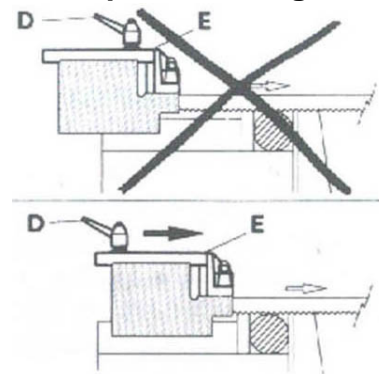

Fig.: 2
Your cutting machine is provided with a sliding guide (E) with built-in protection, which guides the part of the blade necessary to make the cut, and at the same time, protects the part of the blade not in use. To do this, simply slacken the handle (D) and slide the blade guide (E) so as to bring it closer to or farther from the piece that is to be cut (as clearly shown in fig.2).